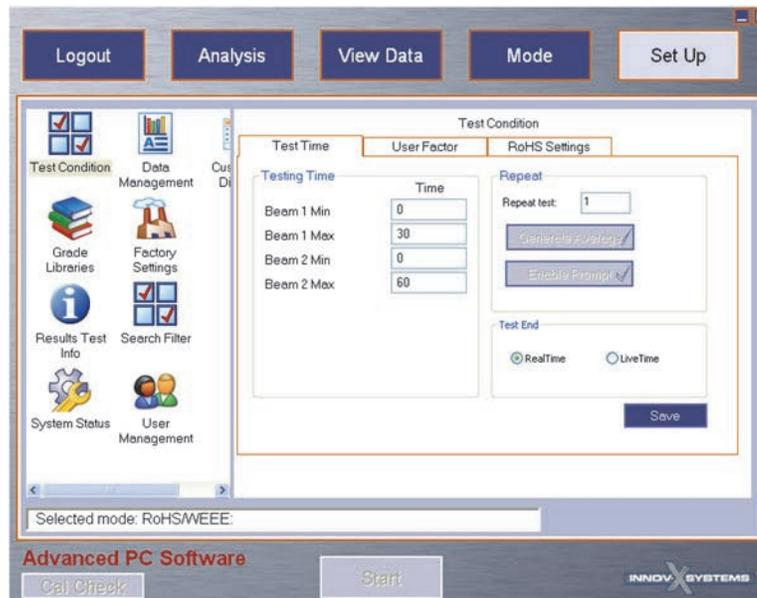

Figure 4-1 The Set Up window (RoHS/WEEE)
Mode setup for Consumer Safety and RoHS /WEEE modes involves setting test conditions using the **Test Time**, **User Factor**, and mode specific settings tab (**RoHS** or **Consumer**). Settings are accessed from the **Test Condition** pane (see Figure 4-1 on page 69).
1. Select the appropriate mode, and then click **Set Up** (see Figure 4-1 on page 69).